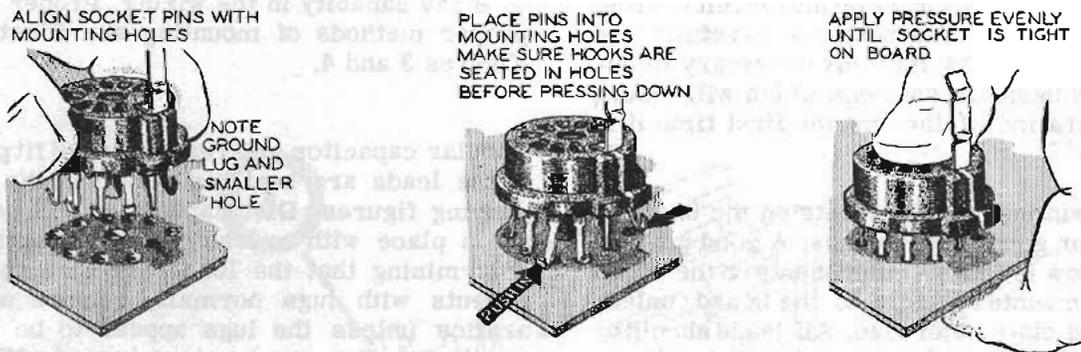

Figure 4
- () Install two 9-pin tube sockets (#434-78, with shield clip) at locations V1 and V2. See also Figure 4. On each socket, solder all ten connections and the center post to the foil.